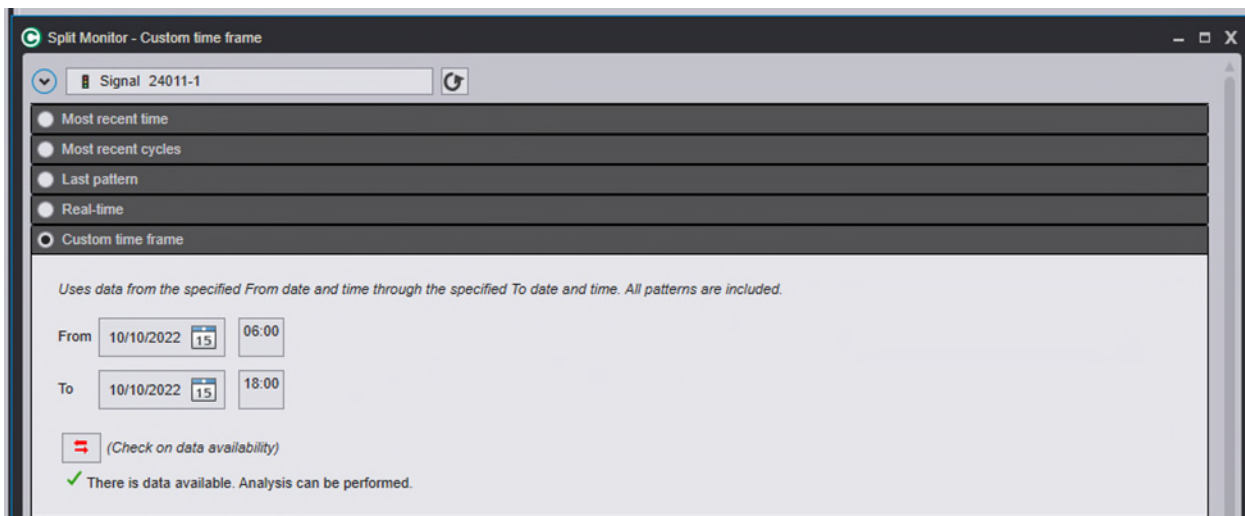

Figure 121: Confirmation of data availability for Split Monitor analysis of Signal 24011-1 with a time frame of 6 AM to 6 PM on October 10th, 2022.
- Next, select the desired time frame. In the example shown in Figure 121, 6 AM to 6 PM on October 10, 2022 has been selected to conduct the analysis. To use a different time frame, simply update the configurable options.